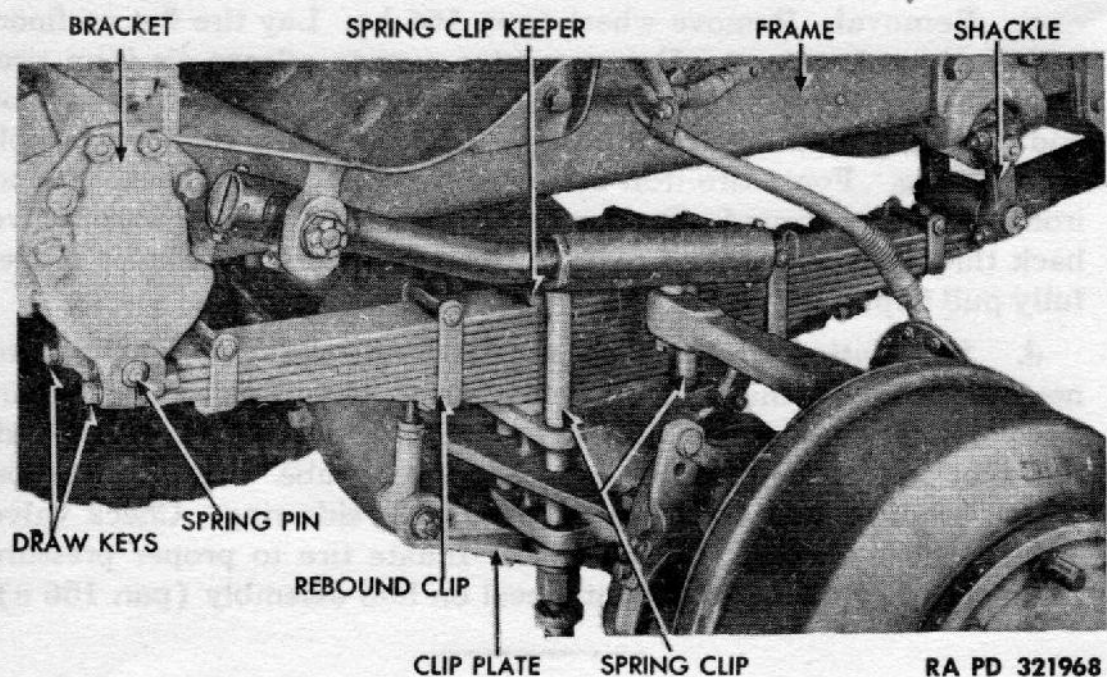

Figure 124 – Front Spring Installed
(1) **DESCRIPTION** (fig. 124). The front springs are attached to the front of the frame side rails and front axle housing. Two spring clips (U-bolts) secure the center of spring to the housing. The rear of the spring is attached to the frame by a shackle; the front is attached by a bracket. Keep slip nuts tight at all times, to insure proper wheel alinement, facilitate steering, and prevent leaf breakage.
b. Removal. (fig. 124).
c. Installation (fig. 124).